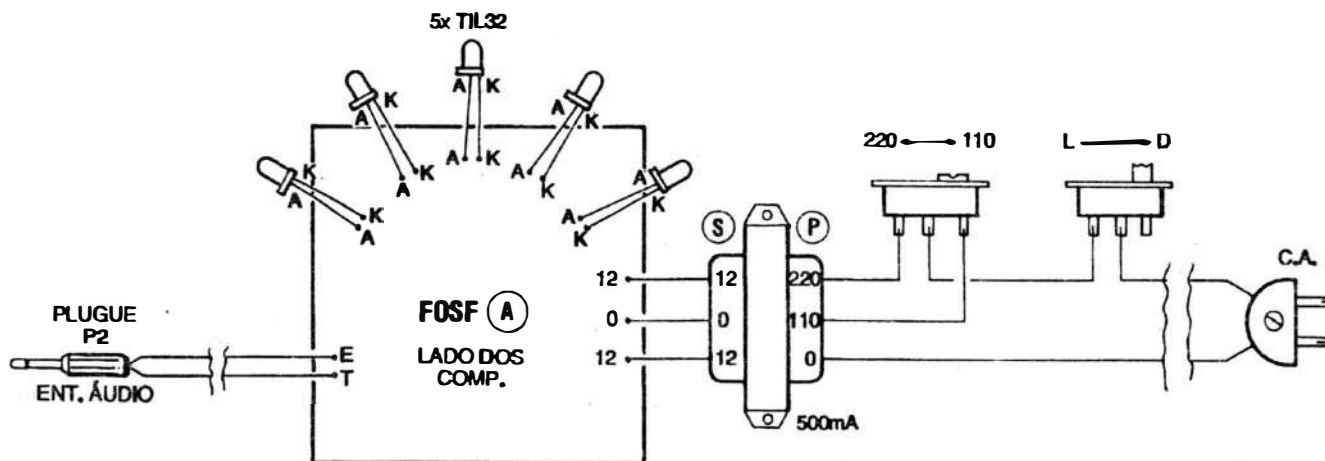

Fig.8
- FIG. 8 - CONEXÕES EXTERNAS À PLACA (TRANSMISSOR - A) - A placa do circuito transmissor dos **FOSF** ain-